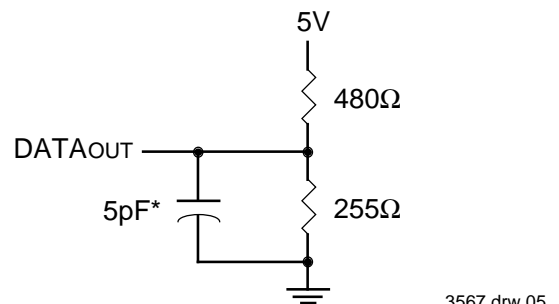

Figure 2. AC Test Load
- This parameter is guaranteed with the AC Load (Figure 2) by device characterization, but is not production tested.